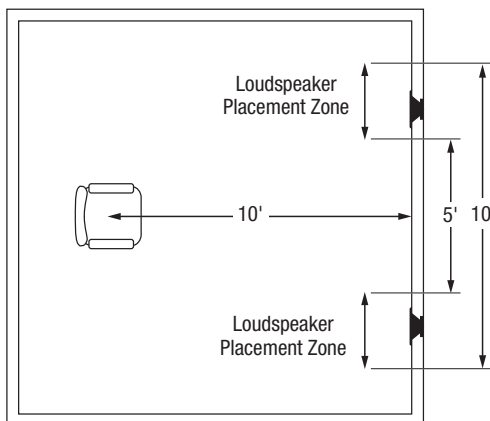

Figure 1. Recommended HDLCRbx loudspeaker placement for front left and right channels.
- *In home theater applications where there is a center channel, you may choose to space the left and right main loudspeakers farther apart for a "bigger than life" sound with Dolby® encoded movies and TV shows. However, for combined music and movie usage, we recommend using the placement zone for stereo music. Ideally, if the listening position is 10 feet back from the wall, place the loudspeakers between 5 and 10 feet apart, as shown in **Figure 1**.*